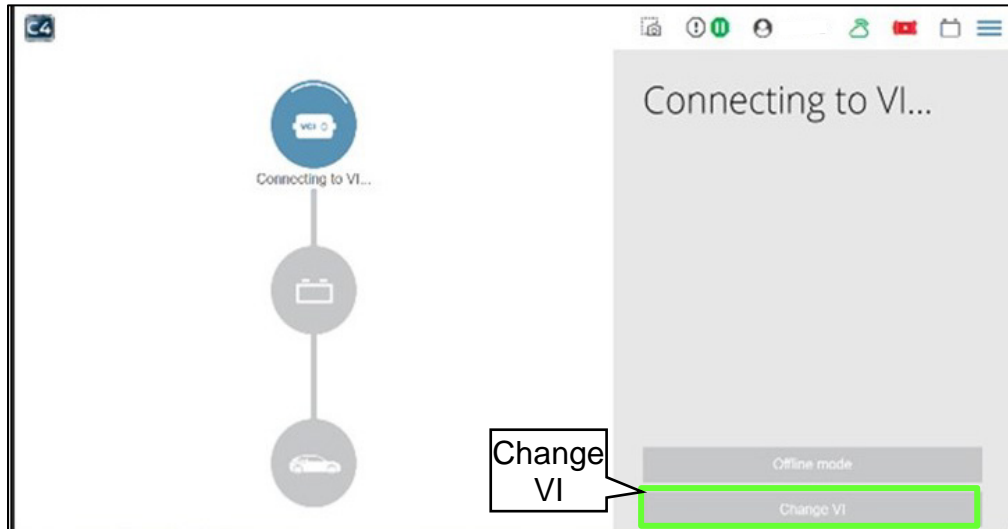

Figure 5
11. Allow C4 to connect to the VI3 (Figure 5).